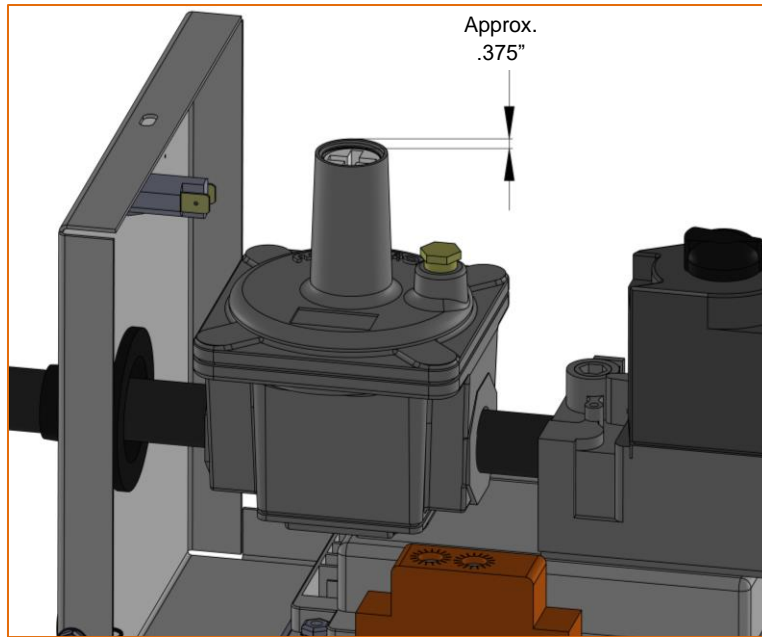

Figure 44: Adjustment Screw Starting Position
2. The zero regulators come factory set as shown in Figure 44. Make sure the one you are working on has not been tampered or set incorrectly.